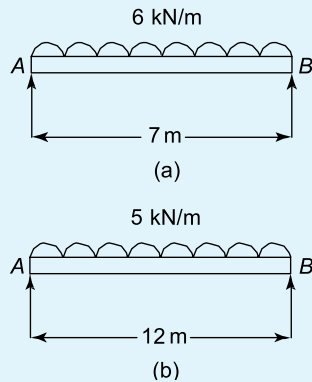

Figure 7.43 Simply supported beams
1. Figure 7.43(a)
2. Figure 7.43(b)